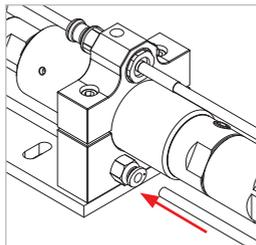

Figure 8
- ▶ Plug the purging line of the fueling station into the plug connection on the fueling station side of the holding case (Pos. 11, *Figure 8*).